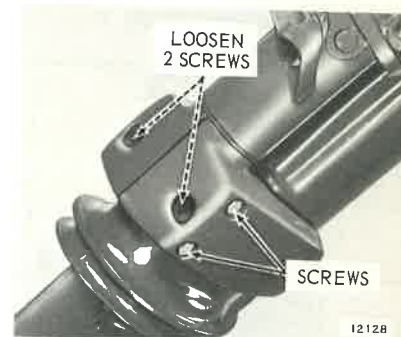

Figure 6-6. Lower Mount Housing Screws
- Remove two screws attaching lower mount housings and exhaust housing to pilot shaft. Loosen two screws anchoring lower front rubber mount to side mount housing and pilot shaft. Remove side mount housing. See Figure 6-6.